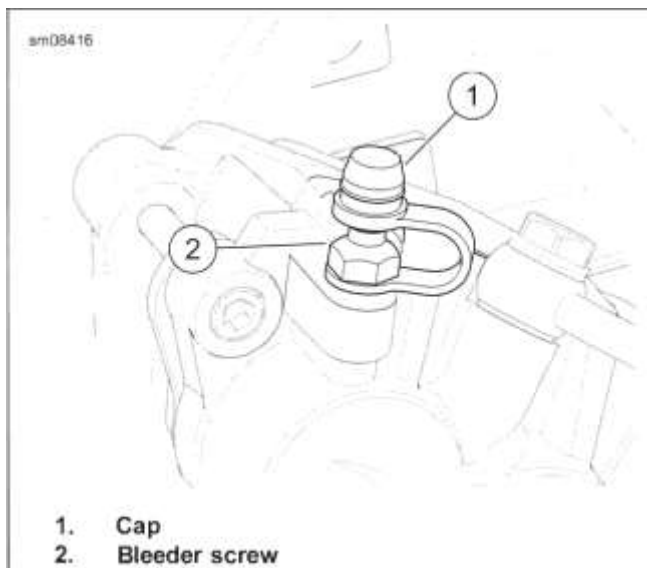

Figure 3-60. Bleeder Screw (Typical)
2. See Figure 3-60. Remove cap (1) from bleeder screw (2).